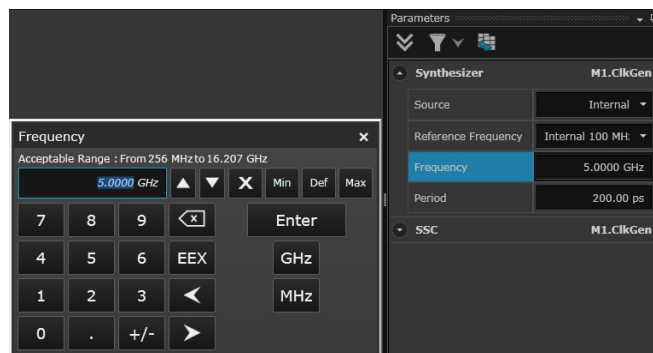

Figure 37 Set frequency to 10 GHz
- d Using the numeric keypad, enter **10** then click on the **GHz** button as shown in Figure 37 on page -89. If your system has a maximum data rate of 8 Gb/s, leave the frequency setting at 5 GHz.